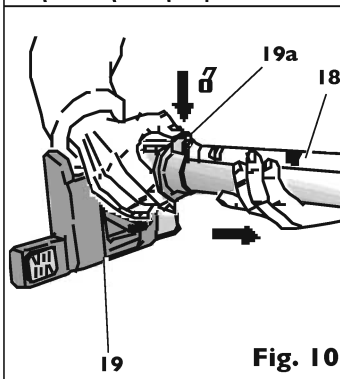

Fig. 11
- FUNNEL** (fig. 02 - pos. 32) - This accessory is used to top up the water in the water tank (Fig. 11)